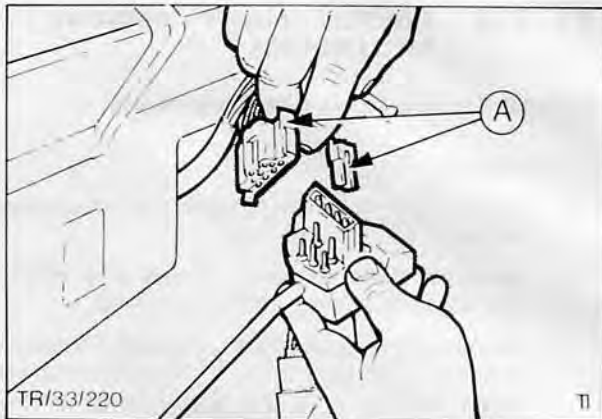

Fig. 37. Disconnecting switch
4. Unplug indicator switch from two loom plugs, Fig. 37.